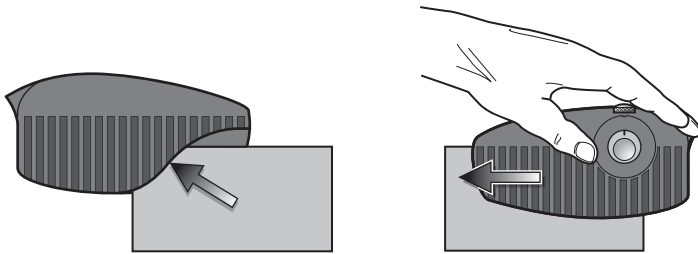
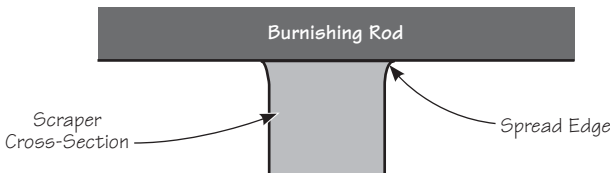

Figure 1: Take two or three passes over the scraper.
Figure 2: Prepare the scraper edges.
3. With the dial set and locked at 0°, take two or three passes over the scraper at moderate pressure (**Figure 1**). This will slightly spread the milled face and prepare the edges for the next step (**Figure 2**).